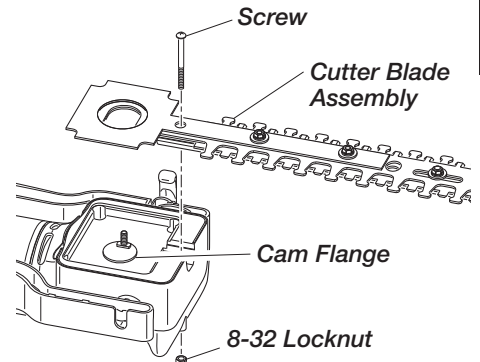

Figure 19 - Removing Cutter Blade Assembly
5. Remove screw that holds down cutter blade assembly (see Figure 19). **IMPORTANT:** Be sure not to loose the 8-32 locknut that secures this screw.
8. Align cutter blade assembly so that the cam will fit properly into the oval-shaped lobes of the cutter blade assembly (see Figure 19). **IMPORTANT:** The large diameter flange of the cam must face upward away from the power head. The small diameter flange of the cam must line up with and sit directly on top of the cam flange.